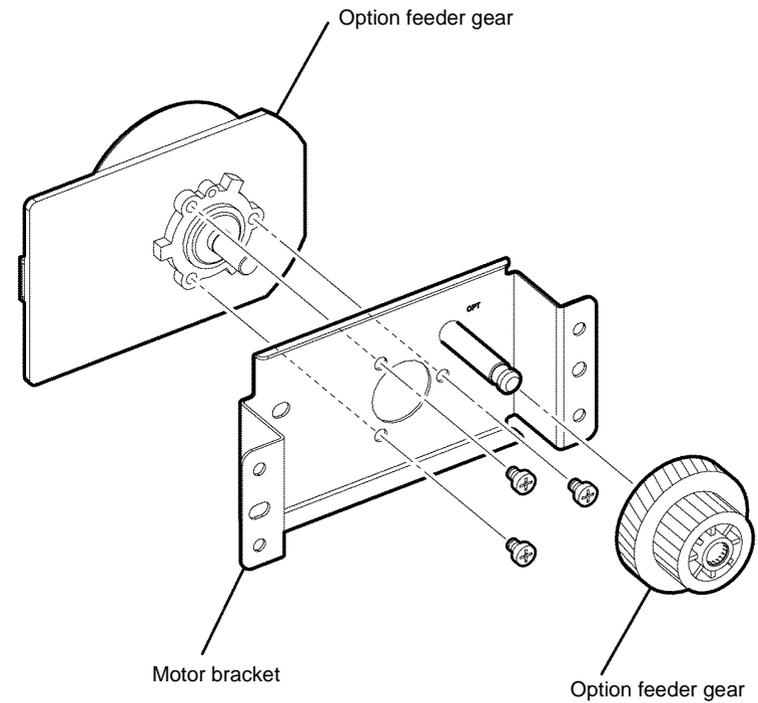

Figure 2 Option feeder motor assembly removal
7. Remove the option feeder gear and three screws (silver, M3, 4mm) that fix the option feeder motor assembly, then remove the option feeder motor assembly from the motor bracket, Figure 2.